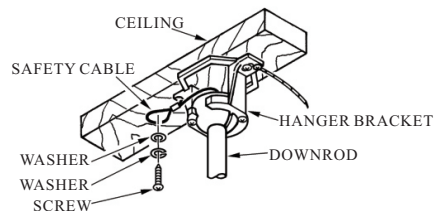

FIG.6
3. Install the safety cable into the building structure. (see Fig.6)